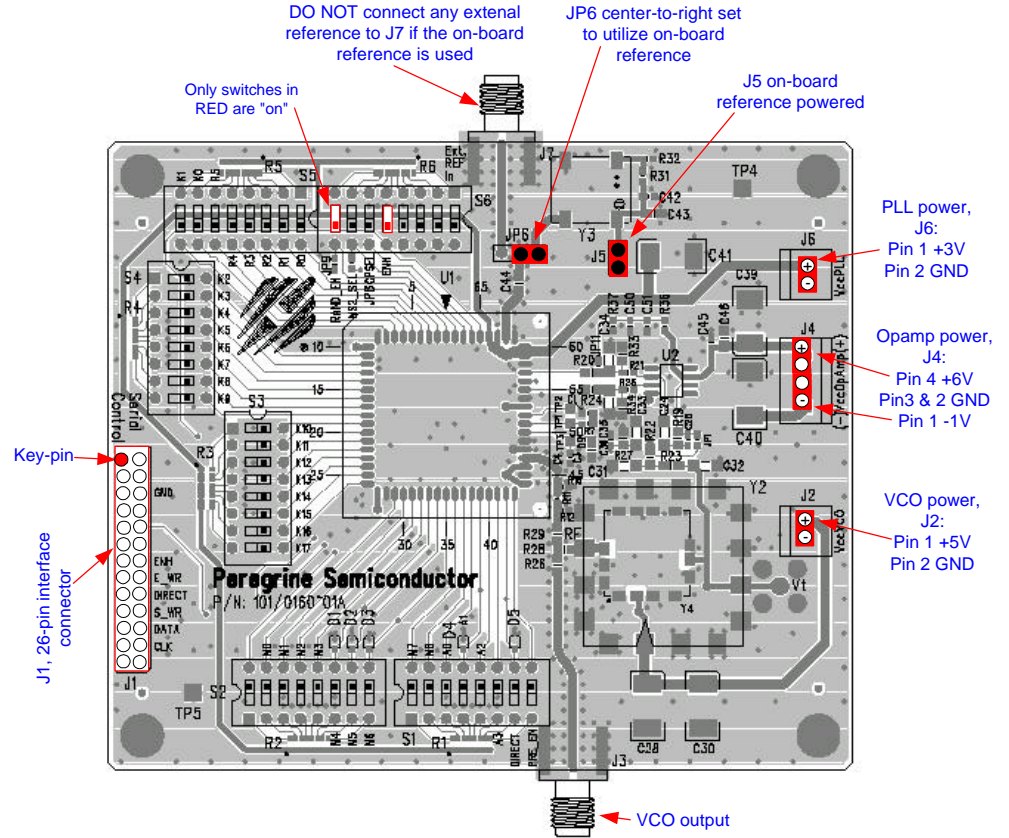
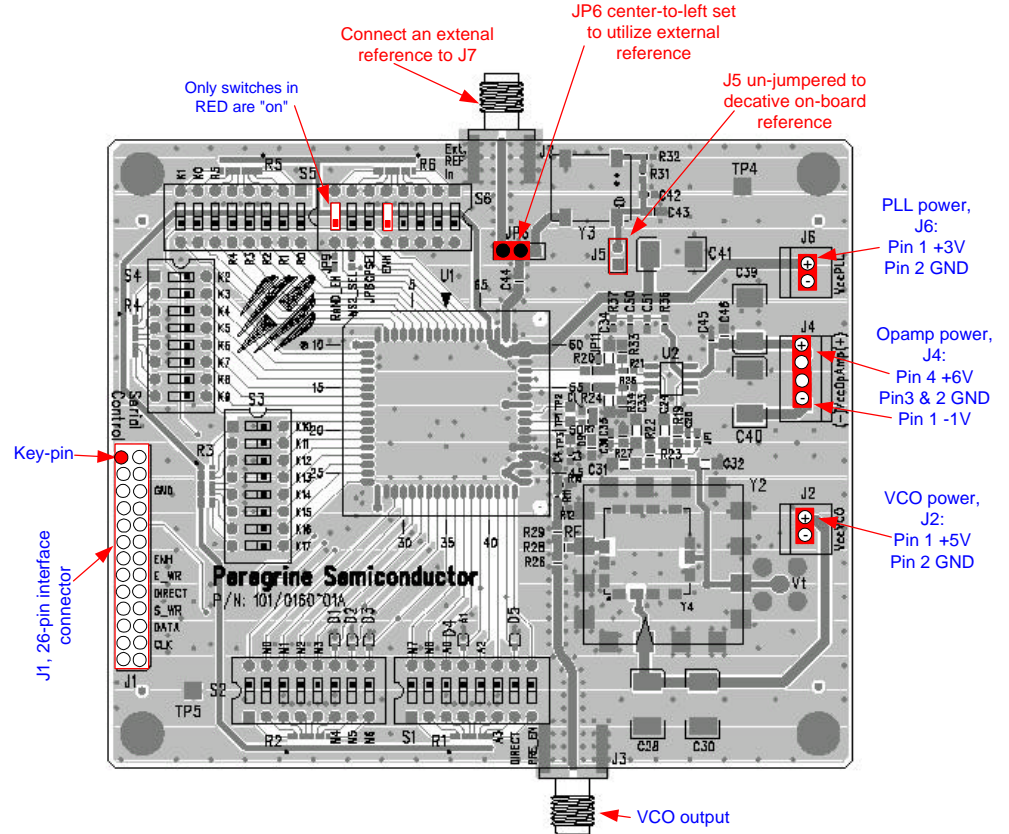

Figure 2. Evaluation Kit Default Jumper & Switch Settings Using On-board Reference.
Figure 3. Jumper Setting to Use an External Reference. The red texts show the necessary modification from Fig. 2.
The PE9763 Evaluation Board is configured with an on-board VCO, TCXO reference and a second order active loop filter. The loop filter is followed by 2 low pass filters to filter out high frequency noise. The VCO tuning range is from 1865 MHz to 2055 MHz and the reference oscillator runs at 20 MHz. The active loop filter is designed for a 20 MHz comparison frequency and a 1920.2 MHz output frequency with unity gain crossover at 60 kHz, phase margin of 70 degrees. The 3 dB bandwidth is approximately 75 kHz. The data provided was measured in this configuration with the default jumper settings shown in Figure 2.
Two jumper shunts (J5 & JP6) configure the Evaluation Board to operate with either the on-board reference oscillator (TCXO) or an external reference applied to J7. Figure 2 shows the proper configuration for utilizing the on-board TCXO reference. A jumper shunt placed in the middle-to-right connection of JP6 as shown connects the output of the TCXO to the PLL  $f_r$  input, while a jumper shunt placed in J5 provides power to the TCXO. Do not connect any external reference to J7 if the on-board reference is selected.
To use an external reference, place the jumper shunt in the middle-to-left connection of JP6 which connects the PLL  $f_r$  input to the J7 SMA connector and remove the jumper shunt on J5 to power-down the TCXO. Figure 3 shows the configuration of using an external reference. The red texts show the necessary modification from Fig. 2.
The default jumper and switch settings are shown in Figure 2, which will place the part into serial programming mode utilizing the on-board reference. Peregrine Semiconductor recommends that the default settings be used initially to bring up the evaluation board and duplicate the enclosed measured data.
1. Verify a jumper shunt is placed on the connector J5 and REF Selector (JP6) is positioned in the middle-to-right connection to select the on-board reference as shown in Fig. 2.
3. Connect power supply cables to the Evaluation Kit board as shown in Fig. 2. Note that the red connector of the power cable is always the positive and the black connector is ground in a 2-wire cable or the negative in a 4-wire cable.
5. Using the application software provided and described in detail in the previous section, serial programming can be evaluated. To enable software control of the evaluation board, ensure all DIP switches are turned OFF except for ENH (Switch S6 #5) and RND\_SEL (Switch S6 #8) as shown in Figure 2. The 25-wire interface cable should be connected from your computer's printer port to J1 on the evaluation board to enable software control.